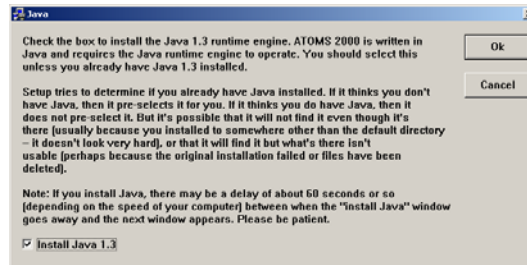

Figure 3-7. JAVA Install
7) The JAVA Install window appears (Figure 3-7), the first of three optional installs. The check box at the bottom of the window is checked if the installation program cannot find JAVA already installed *in its default location*. If you know that JAVA is already installed, but in a non-default location, uncheck this box. In either case (checked or unchecked), click **OK**, as clicking **Cancel** halts the entire installation of ATOMS 2000.